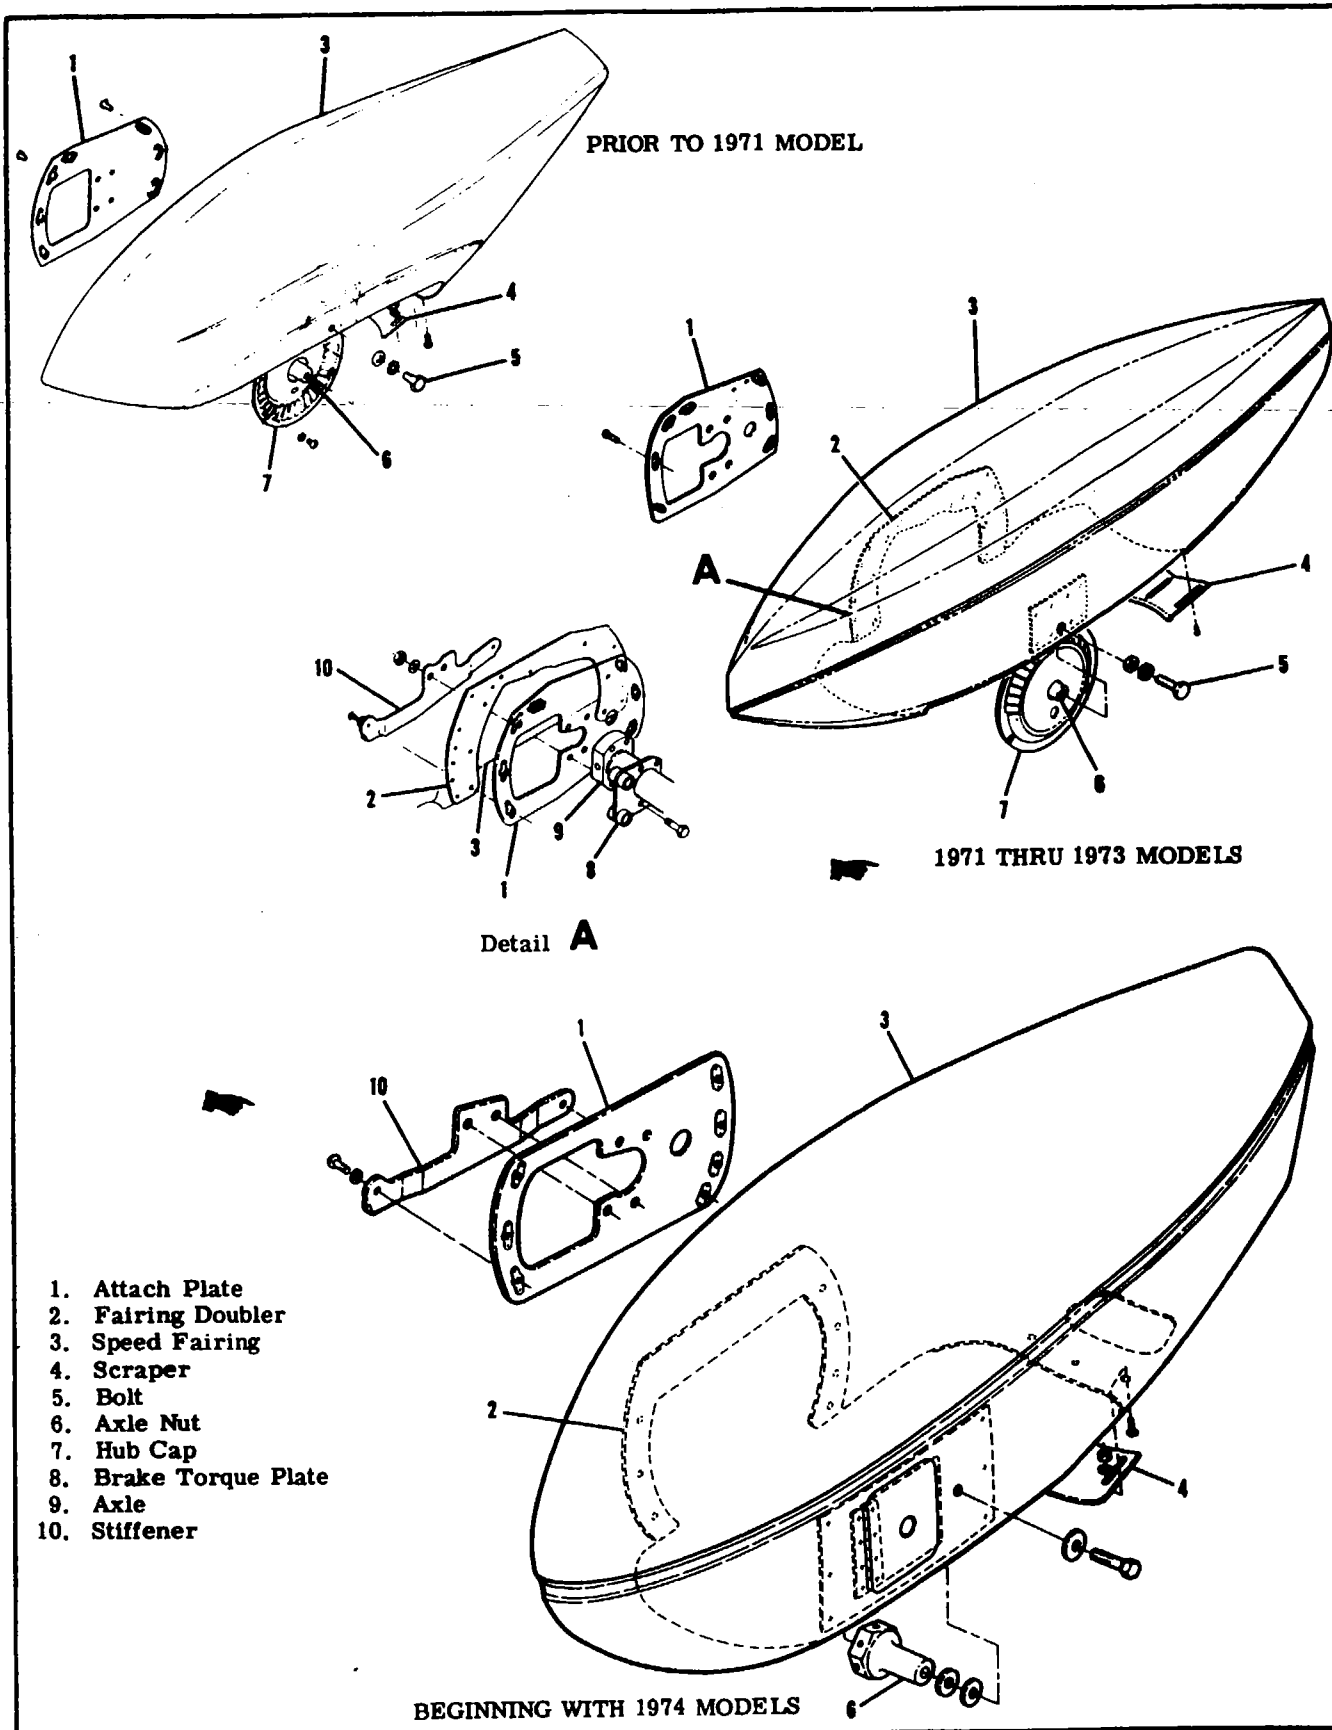

Figure 5-2. Main Wheel Speed Fairing
REFER TO FIGURE 5-2 FOR
- 5-10. MAIN WHEEL SPEED FAIRING REMOVAL AND INSTALLATION. (Refer to figure 5-2.)